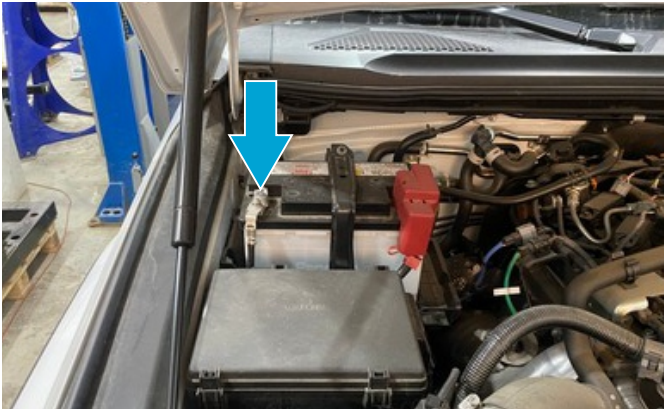

Fig.1
1. Open the hood. Disconnect terminal “-” from the vehicle battery (fig.1).